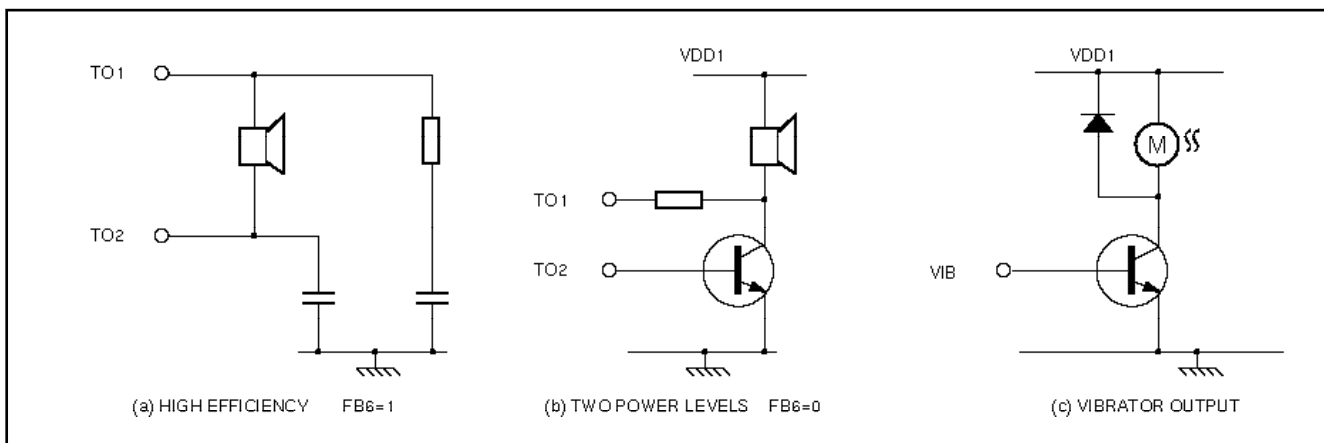

Fig. 12 Tone Generator / Vibrator Interface Circuits
The internal tone generator circuit feeds an external beeper via the TO1 and TO2 pins. Figs. 12(a) and (b) show the two common methods of beeper interface. Fig. 12 (a) shows a high efficiency resonant drive circuit with one fixed volume level. In this configuration the TO1 and TO2 outputs are push
- pull, switching in anti - phase. Fig. 12 (b) shows a more flexible drive network which delivers two different power levels to the transducer. This mode is selected by clearing bit 6 of the function register low (Fig. 4). When an alert tone is output, TO2 stays low for the first six seconds and TO1 switches in accordance with the cadence pattern, producing a low level tone. For the next ten seconds TO2 also switches, producing a high tone level.
The vibrator output VIB drives an external bipolar transistor with vibrator alerter as shown in Fig. 12(c).